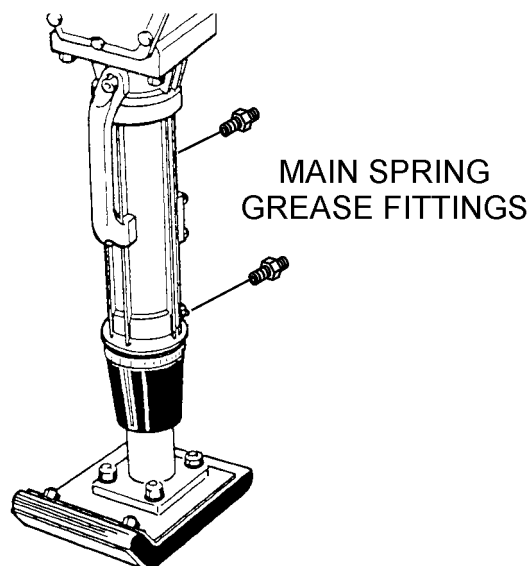

Figure 18. Grease Fittings (Main Springs)
1. There are 2 grease fittings (Figure 18) that require lubrication of the main springs. Lubricate these fittings as outlined in the maintenance section of this manual.
- The rammer main springs (Figure 18) should be lubricated with five shots of grease with a hand grease gun after each eight (8) hours of use.